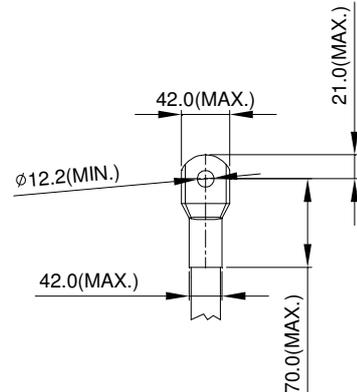

Figure 3
4. Figure 3 and Figure 4 shows the specification of insulated heat shrink tubing that comply with UL (600C, YDPU2).